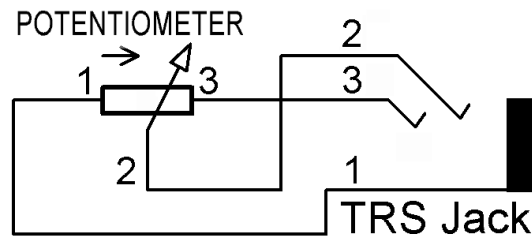

Fig. 16.2 - Expression Pedal wiring
- If connecting an expression pedal, make sure that the potentiometer inside your pedal is a 10 Komh linear and the wiper is connected to the ring of the TRS jack (Fig 16.2). Other type of pedals won't work.